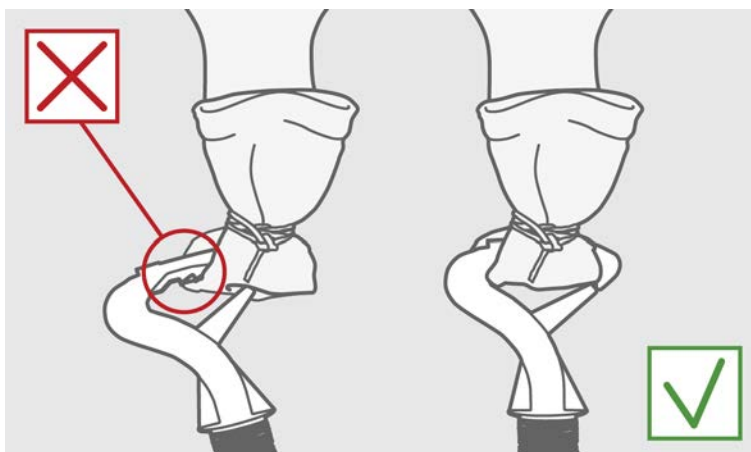

Figure 6 Unwinder Clip Is Level with the Unwinder Bottom Plate
2. If the clip is bent up, bend it gently back to level position as shown in Figure 6 (page 24).